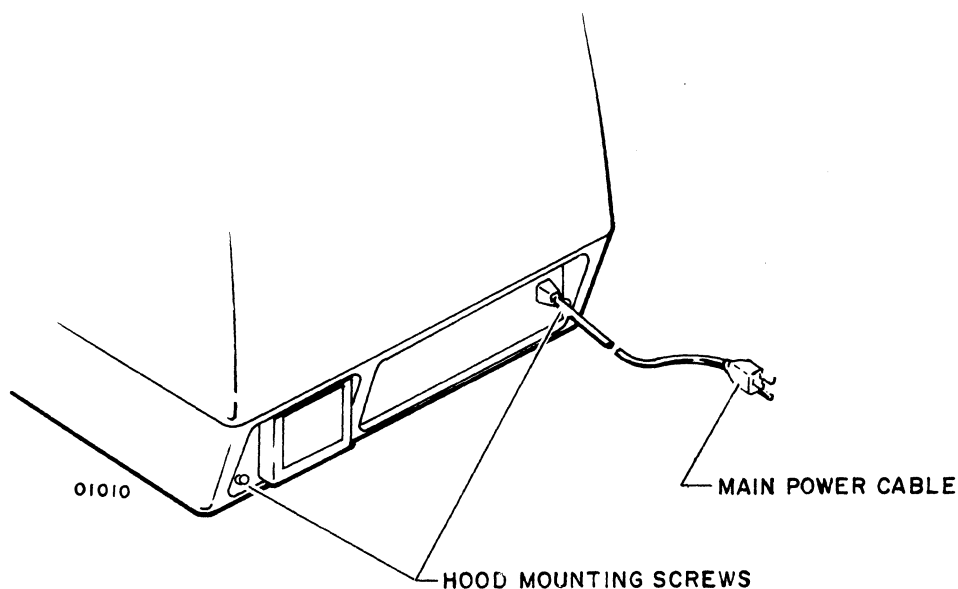

Figure 6-16. Cabinet Hood Mounting
- 3) Remove two mounting screws located at lower back corners of cabinet hood (see figure 6-16).